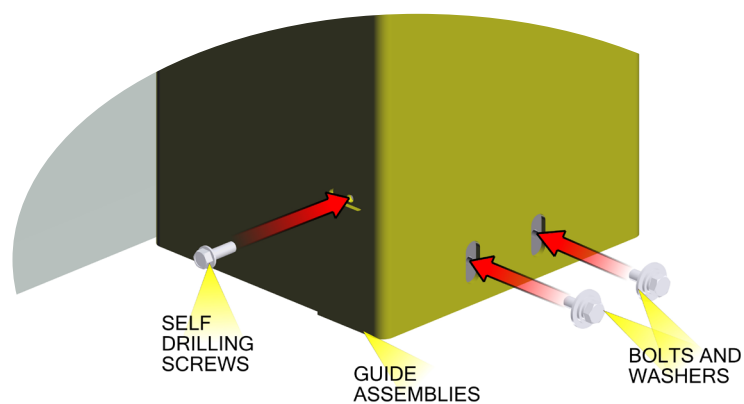

Figure 14
- Close the hinged guide assemblies and bolt in place using the self drilling screws provided, as shown in **Figure 14**.